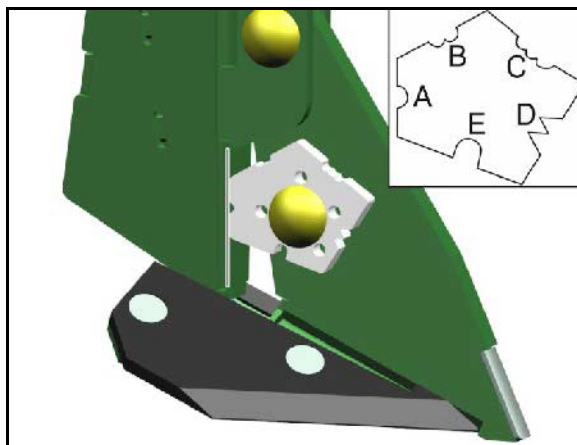

Fig. 96
9. Turn the drive wheel with the calibration crank handle (Fig. 96/1) in the direction of the arrow until all chambers of the dosing rollers are filled with seed and a uniform seed stream flows into the calibration troughs.
13. Turn the drive wheel in the direction of the arrow using the calibration crank (Fig. 96/1).